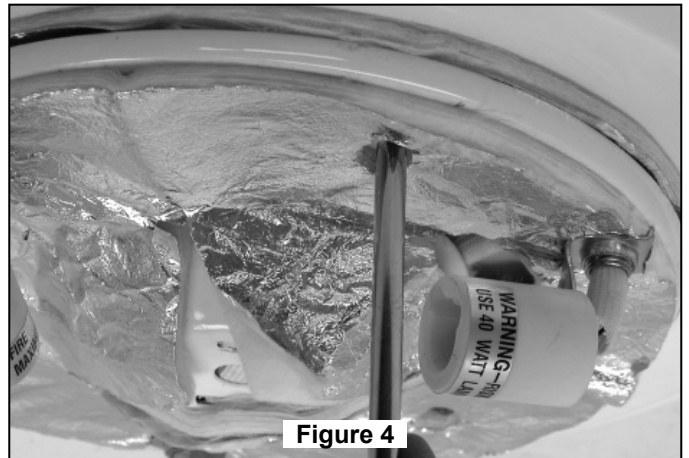

Figure 4
4. Securely attach Downlight Socket Plate Assembly to the Adapter Plate by tightening three screws with spring washers (5/32-32 x 7 mm) provided with the fan. (Figure 4)
*Be sure to line up the curved slotted holes located on both Lower Housing Support Plates. (Figures 4 & 5)*